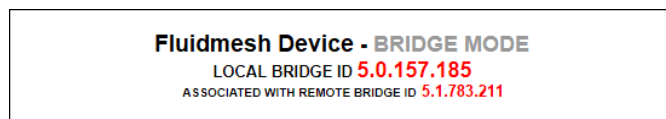

Figure 43. Configurator interface (Unit ID information)
- The unit ID number of the local unit is shown as the **LOCAL BRIDGE ID** (Figure 43 (page 102)).